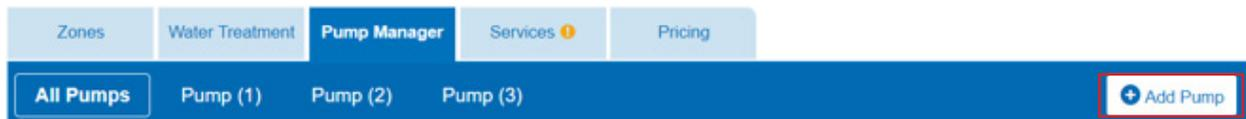

Figure 4: The 'Add Pump' feature appears in the top righthand corner. Any pumps that have already been added will appear along the blue pump ribbon.
2. Add a pump to begin the selection. Any pumps that have been added will appear along the blue ribbon in the PMT (See *Figure 4*)